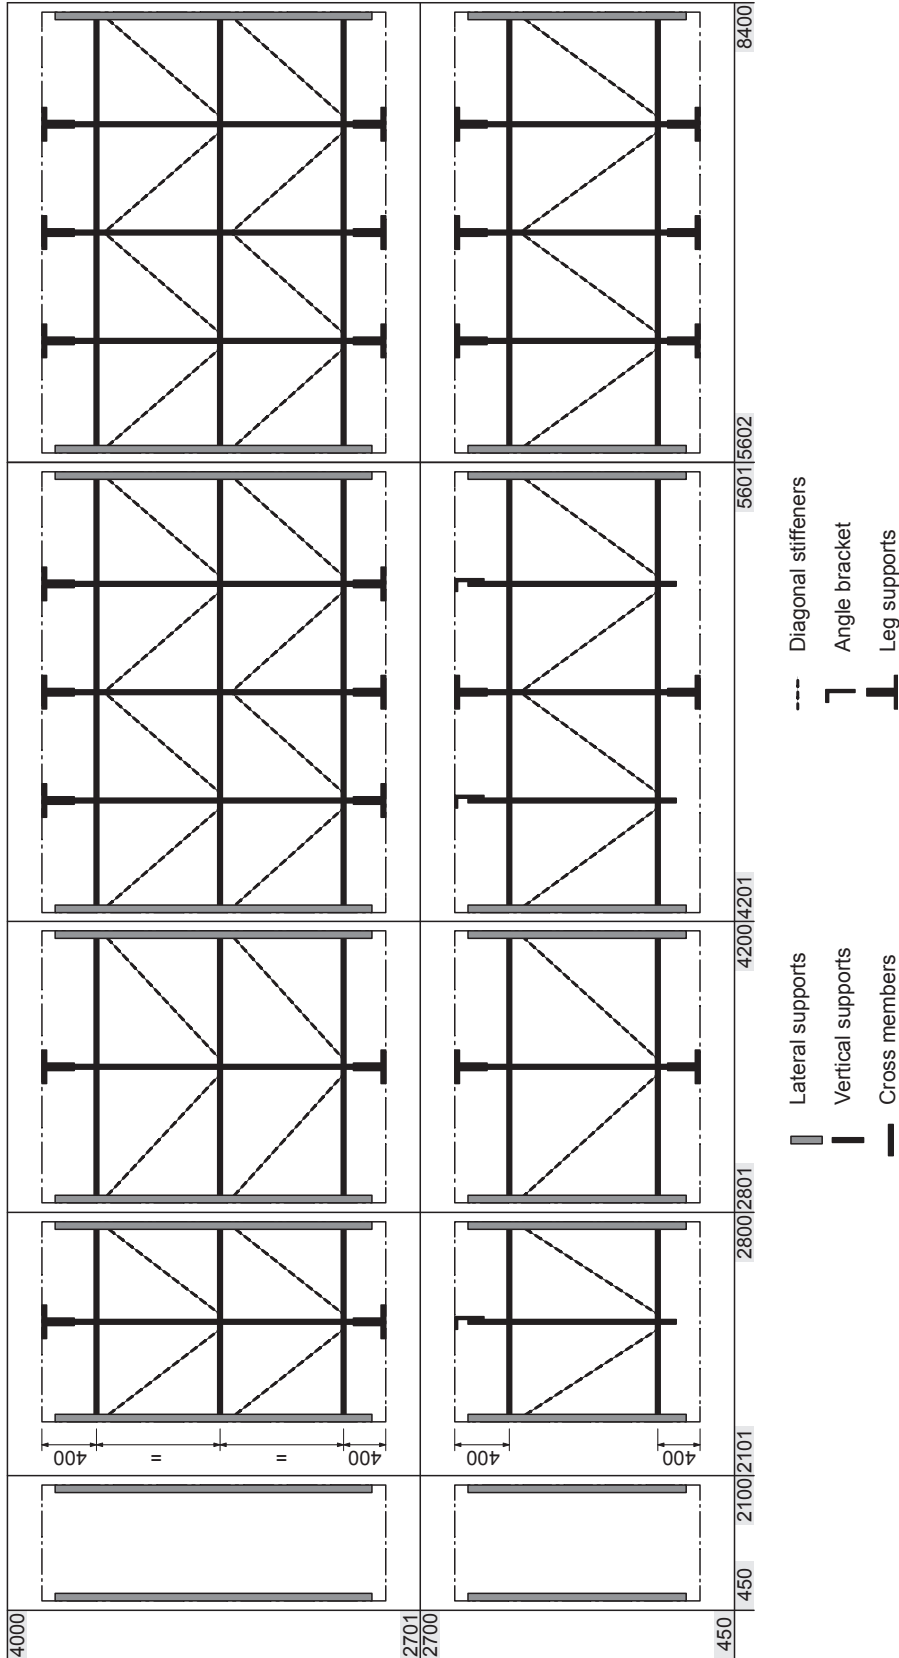

Fig. 4: Overview frame constructions post-evaporation unit (duct inner dimensions mm)
- Make sure the duct/AHU section where the humidification unit is installed has a **sufficient load-bearing capacity**. The wet weight of the post-evaporation unit is **approx. 55 kg/m² humidifier area**. **Important:** on systems with a width >2800 mm some or all vertical supports of the post-evaporation unit are supported to the duct/AHU ceiling and to the duct/AHU floor with special leg supports (see Fig. 4). On systems with a width >4500 mm additionally the vertical support of the nozzle unit is supported to the duct/AHU floor with a special leg support (see Fig. 24). Make sure the mounting surface on the duct/AHU floor (or tub) and on the ceiling of the duct/AHU where the legs supports are mounted to is equipped with a reinforcement traverse.